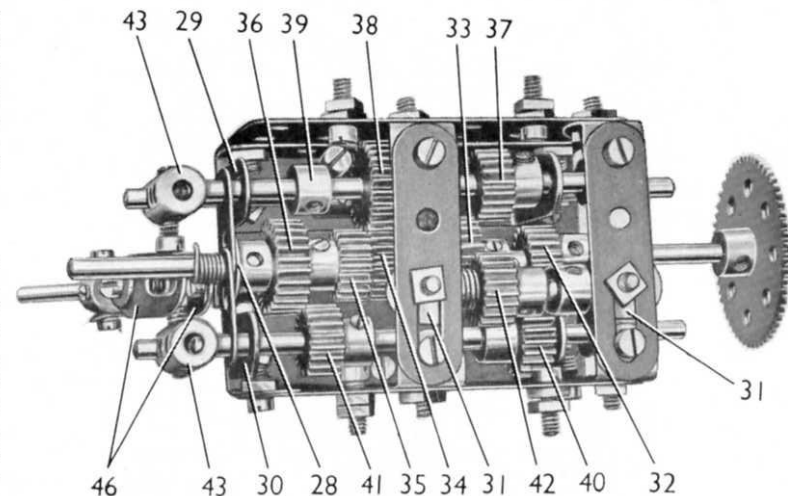

FIG. 7 A close-up of the 3-speed and reverse gear-box
Assembling the Gear-Box (Fig. 7)
The gears are located in a frame, the top of which consists of two 3" Flat Girders bolted together through their round holes, with a 3" Angle Girder fixed through its slotted holes to the outer edge of each Flat Girder. A $3" \times 1\frac{1}{2}"$ Flat Plate is attached to each Angle Girder. The bolts that connect the Flat Girders secure also a $1" \times 1"$ Angle Bracket (28) (Fig. 7), and a similar part at the opposite end of the frame. A $1" \times \frac{1}{2}"$ Angle Bracket is also fixed to the centre of the Flat Girders, with a Fishplate bolted to it, so that the round hole in the Fishplate covers the slotted hole in the Angle Bracket. The $1" \times \frac{1}{2}"$ Angle Bracket is located below the 2" Slotted Strip seen at the centre of the gear-box.
The gear selector shafts are $4\frac{1}{2}"$ Rods mounted above the layshafts, and each of them carries a Collar fitted with a $\frac{3}{8}"$ Bolt. The Bolt on the selector shaft for 2nd and 3rd gears engages between the Pinion (38) and the Collar (39). The Bolt on the 1st and reverse gear shaft is located between the Pinion (41) and the Collar. Fishplates are passed over the output shaft and the ends of the layshafts as seen in Fig. 7. A Coupling (43) is fixed to each selector shaft